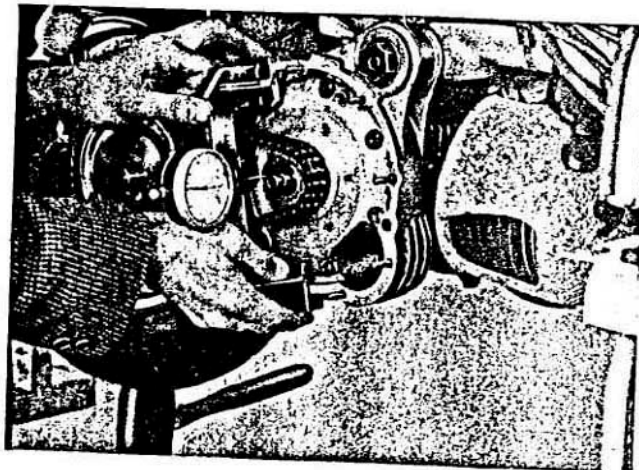

Fig. 24
- c) Place Tool No. 57865 in the position indicated on Fig. 24 and carry out a reading.